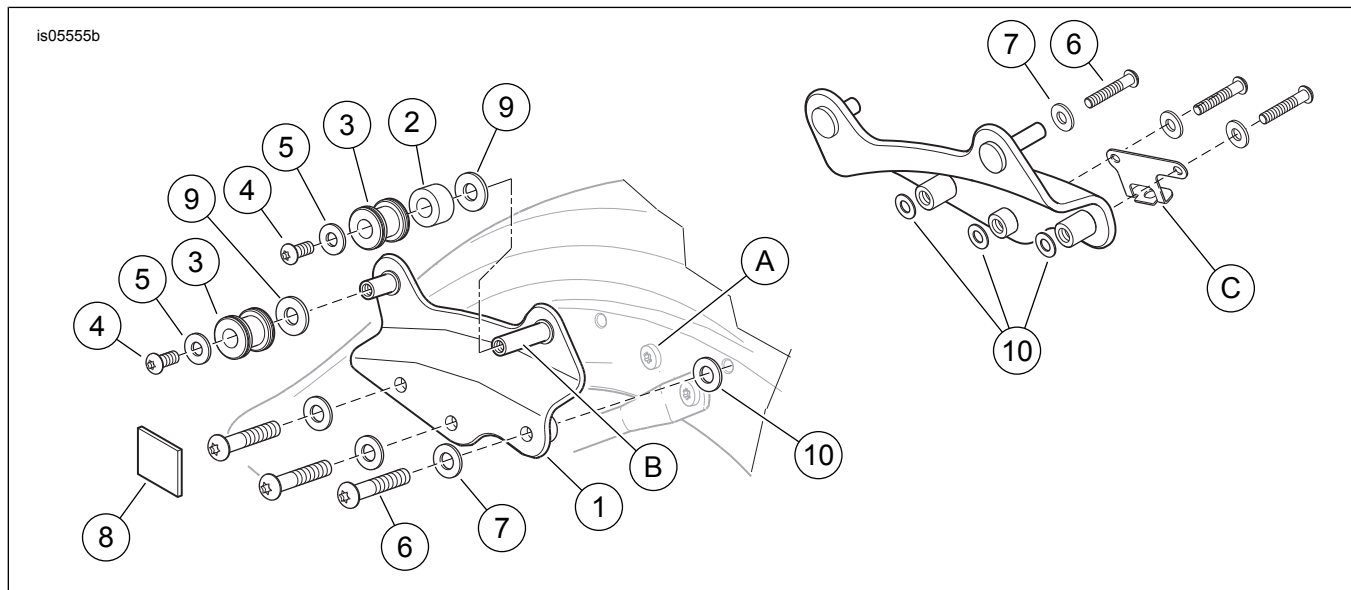

Figure 3. Service Parts, Four-Point Detachable Docking Hardware Kit
See Figure 3 and Table 1.
1. **ALL Models:** See Figure 3. Remove the screw (A) retaining the rear of the chrome cover to the rear frame extension on each side of the vehicle.
2. Place a washer (7) over the threads of each of the larger TORX® head screws (6) from the kit.
4. See Figure 3. Slide a spacer (2) onto the longer pin (B) of each docking plate. Install the four docking points (3), chamfer end first, onto the long and short docking plate pins with washers (5) and smaller TORX screws (4). Tighten bolts until snug.